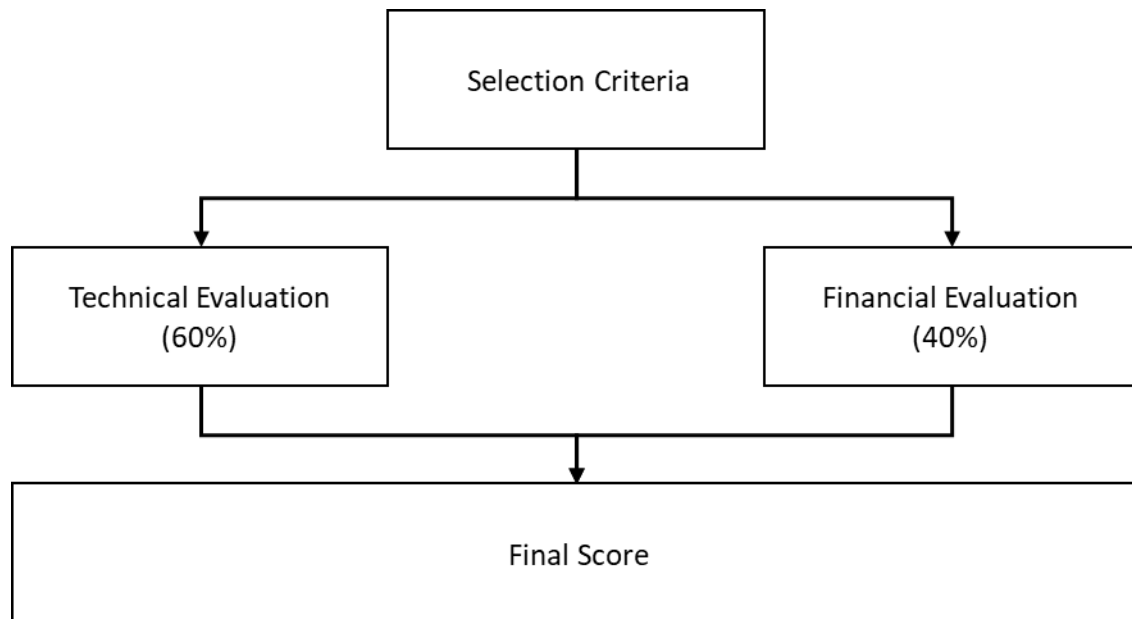

Figure 22.3: Selection Criteria References and Waiting
22.1.1.4: Contractor Selection Criteria: The bid winner must score the highest technical and financial scores as weighted in below figure 22.3 to win the bid based on technical and financial criteria listed in table 22.2 and 22.3 respectively. Then, calculate the final score by apply technical and financial score in the following formula 22.1: